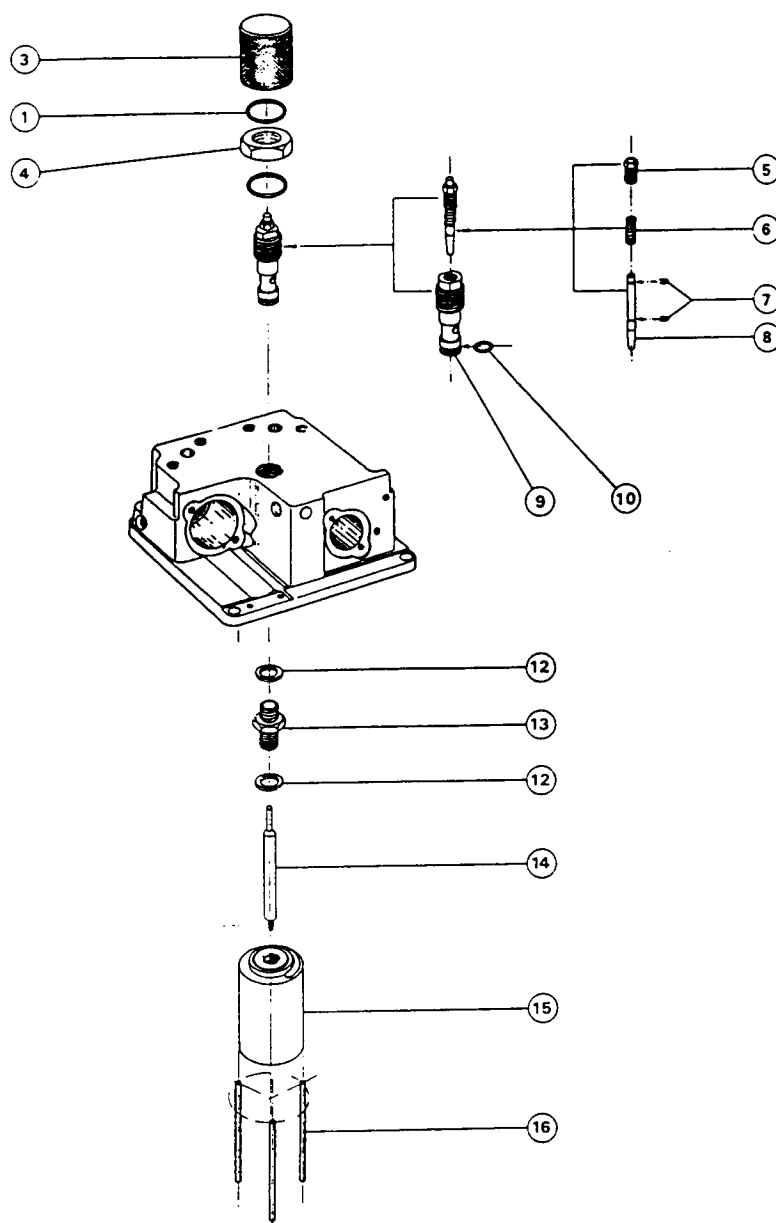

Fig. 3 Temperature Compensator
4.3 Temperature Compensator (Fig. 3)
5.3 Temperature Compensator (Fig. 3)